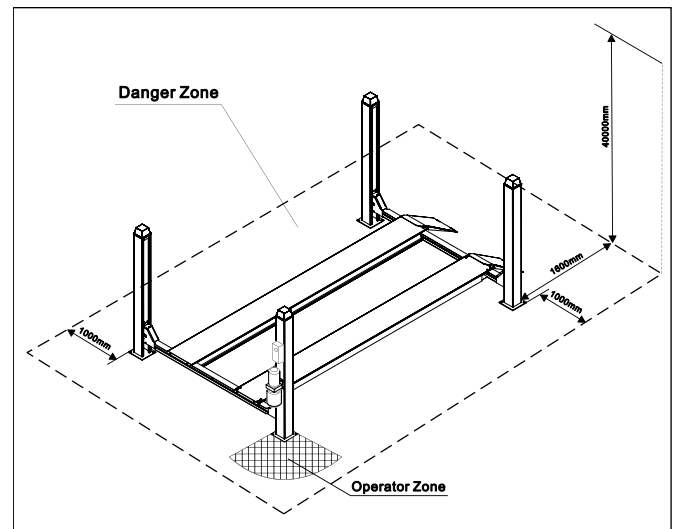

Fig. 13
During lifting and lowering movements the operator must remain in the control station as defined in Fig. 13.
The presence of persons beneath the cross-pieces and/or the platforms when they are moving, or the presence of persons inside the danger zone indicated in Fig. 13 is strictly prohibited.
- Do not enter the danger zone while vehicles are being lifted (*see Fig. 13*);
When the platforms (and vehicle) are lowering the operator must never be partly or completely underneath or near of the movable structure. Always remain in the operator zone (Fig. 13).